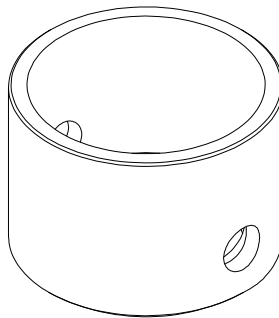

Fig. 6: Seal Retainer
Slide ceramic plungers (26) onto plunger rod and insert the plunger retainer washer (28) into the plunger. Clean the plunger retaining bolts (29). With the aid of a pick, remove the plunger retainer o-ring (27). Replace the o-ring (27) with the new one supplied in the kit as shown in Fig. 6. Slide the plunger retaining washer (28) onto the plunger retainer (29).